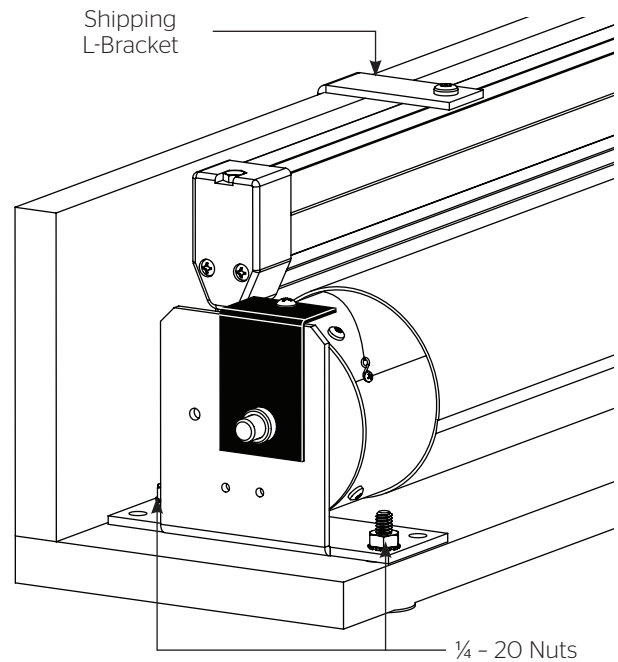

Figure 16
1. Remove two ¼ - 20 nuts from pin end and motor end mounting brackets on the ViewShare screen and roller assembly shipping board (Figure 16).
2. Remove screws from both L-brackets that hold the slat in place and carefully allow the slat to rest behind the ViewShare screen and roller assembly (Figure 16).